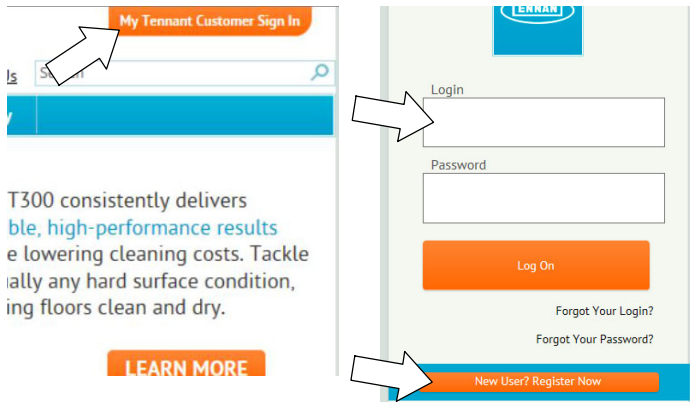

Fig. 32
1. Log in to the “My Tennant” website or register as a new user (Figure 32).